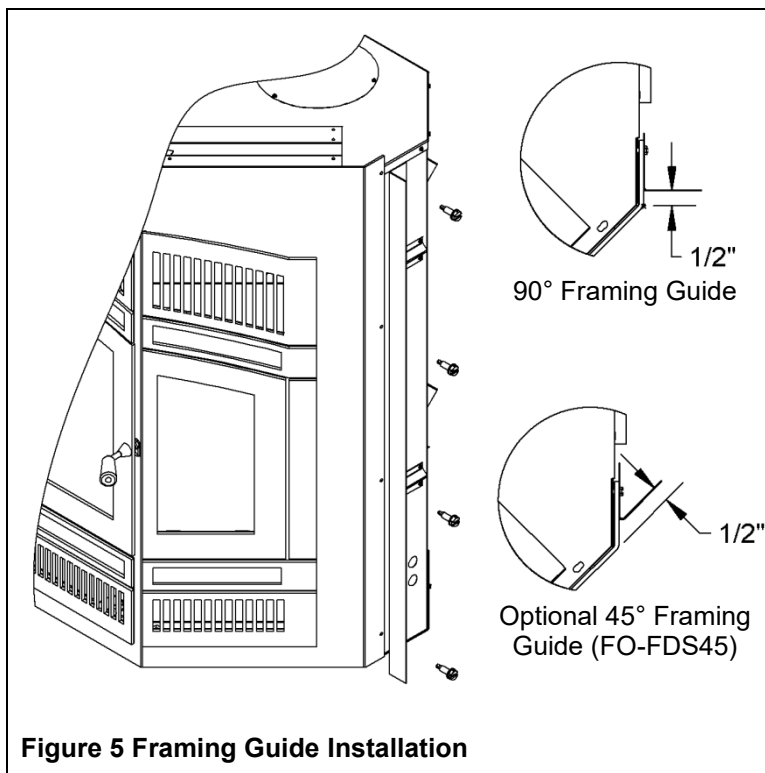

Figure 5 Framing Guide Installation
Provided with the fireplace are two 90° framing guides that need to be installed one on each side of the fireplace facing. Simply remove the four (4) screws on the side of the facing and use them to attach the framing guide as shown in (see Figure 5).